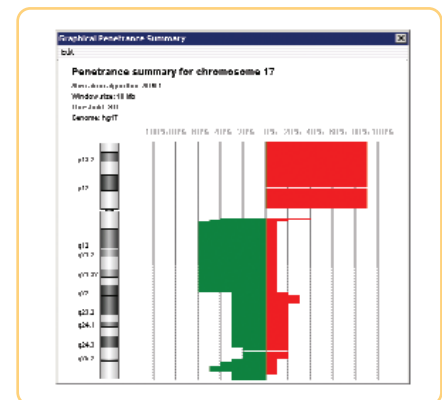

Figure 6. The Aberration Penetrance Report quickly highlights regions with aberrations in multiple samples
- Penetrance plot (Figure 6) – The penetrance plot visually summarizes the percentage that a given aberration is present in selected samples.